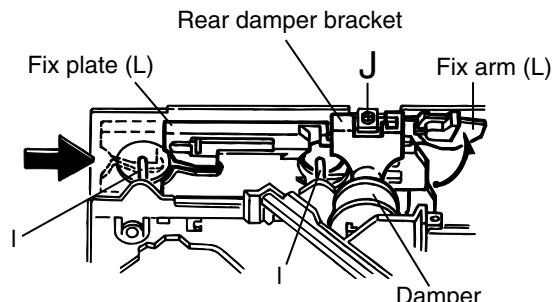

Fig.17
- Raise the both sides fix arms and move the fix plates in the direction of the arrow to place the four shafts I as shown in Fig.17 and 18.